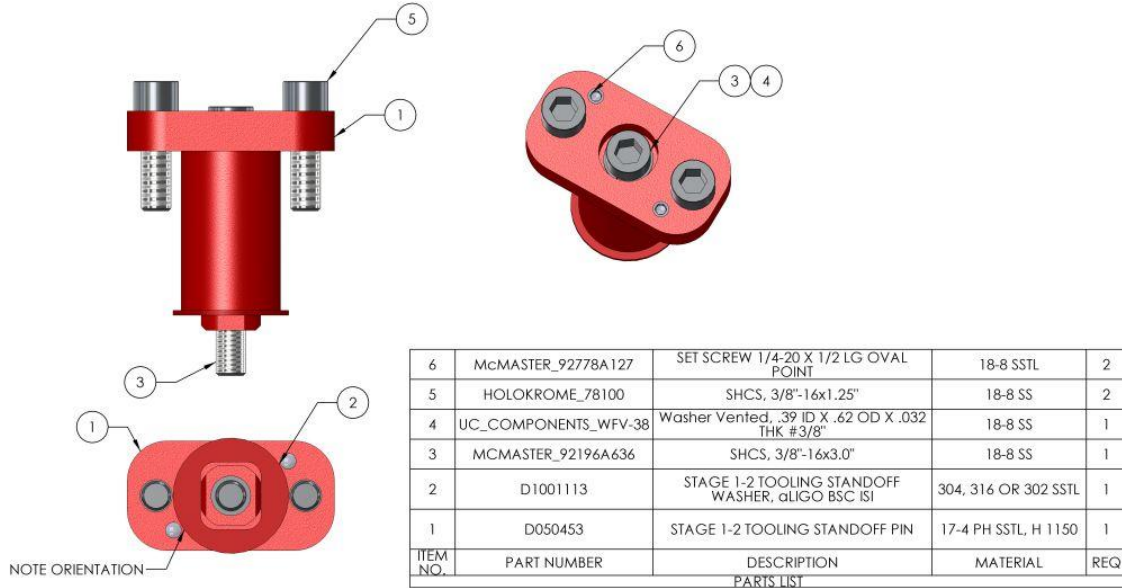
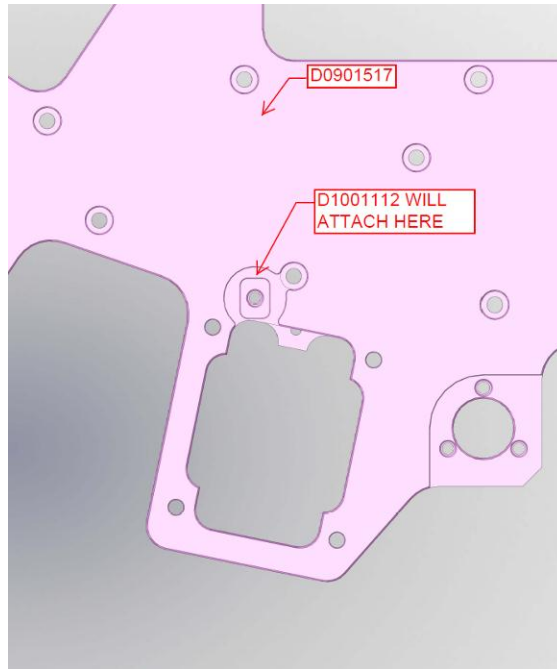
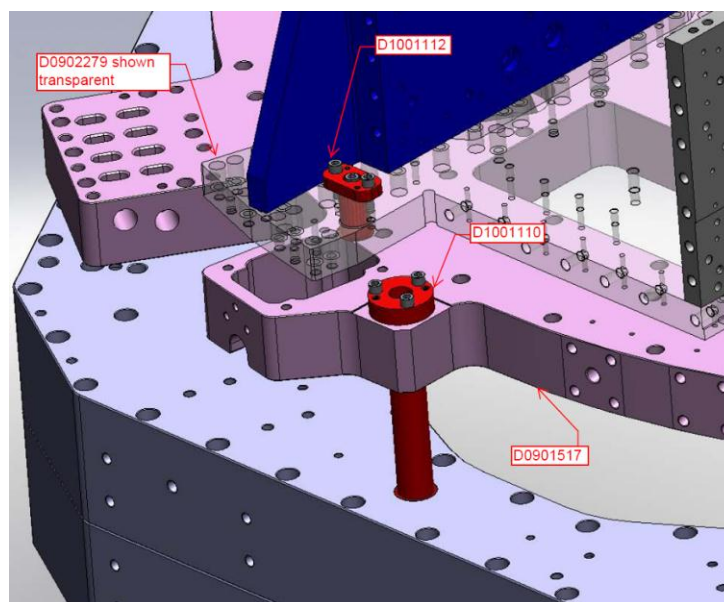

Figure 34: Assembly drawing of D1001112 Stage 1-2 Tooling Standoff Pin
Figure 36: Location for D1001112 Stage 1-2 Tooling Standoff Pin on D0901517 Cut-Out Optical Table
Figure 37: Final location of D1001112 and D1001110
(1) 3/8-16 x 3" SHCS – MSC 05682307
(2) Set Screw 1/4-20 x 0.5" Oval Point – MSC 64102023
- Assemble D1001110 as shown on Figure 34.
- Set D1001113 Stage 1-2 Tooling Standoff Washers (item 2 on Figure 34) onto Stage 2 holes shown on Figure 36. These holes are used to locate Stage 1 onto the Optical Tables with the D1001112 Stage 1-2 Tooling Standoff Pins.
- Slide screws through the tower and attach pins to the Optical Tables using (1) 3/8-16 x 3" SHCS & (1) 3/8 vented washer per post.
- **Torque (3) 3/8-16 x 3" SHCS up to 329 inch-lbs (27 ft-lbs).**
- Attach D1001112 Stage 1-2 Tooling Standoff Pin Assembly to D0901517 Cut-Out Optical Table by sliding the screw through D050453 Tooling Standoff Pin and threading it into D0901517 (using (1) 3/8"-16 x 3" SHCS, item 3 on Figure 34) as shown Figure 37.